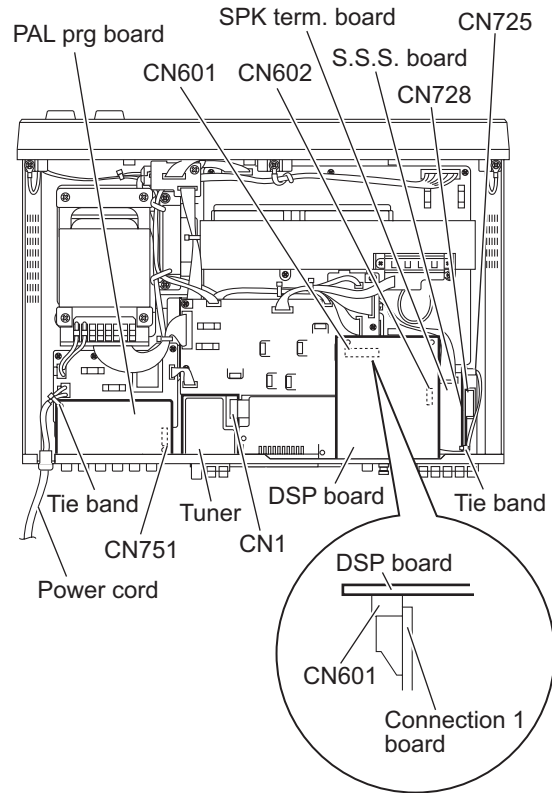

Fig.7
3.1.4 Removing the tuner (See Figs. 7 and 8)
- From the top side of the main body, disconnect the card wire from the connector CN1 on the tuner. (See Fig.7)
3.1.5 Removing the PAL prg board (See Figs. 7 and 8)
- From the top side of the main body, remove the tie band fixing the power cord. (See fig.7.)
After reassembling, fix the power cord with a new tie band as before. (See Fig.7.)
- Take out the PAL prg board and disconnect the card wire from the connector CN751 on the forward side of the PAL prg board. (See Fig.7)
3.1.6 Removing the DSP board (See Figs. 7 and 8)
- From the top side of the main body, disconnect the connector CN601 on the DSP board from the connection 1 board. (See Fig.7)
- Take out the DSP board and disconnect the card wire from the connector CN602 on the forward side of the DSP board. (See Fig.7)
3.1.7 Removing the S.S.S. board (See Fig 7)